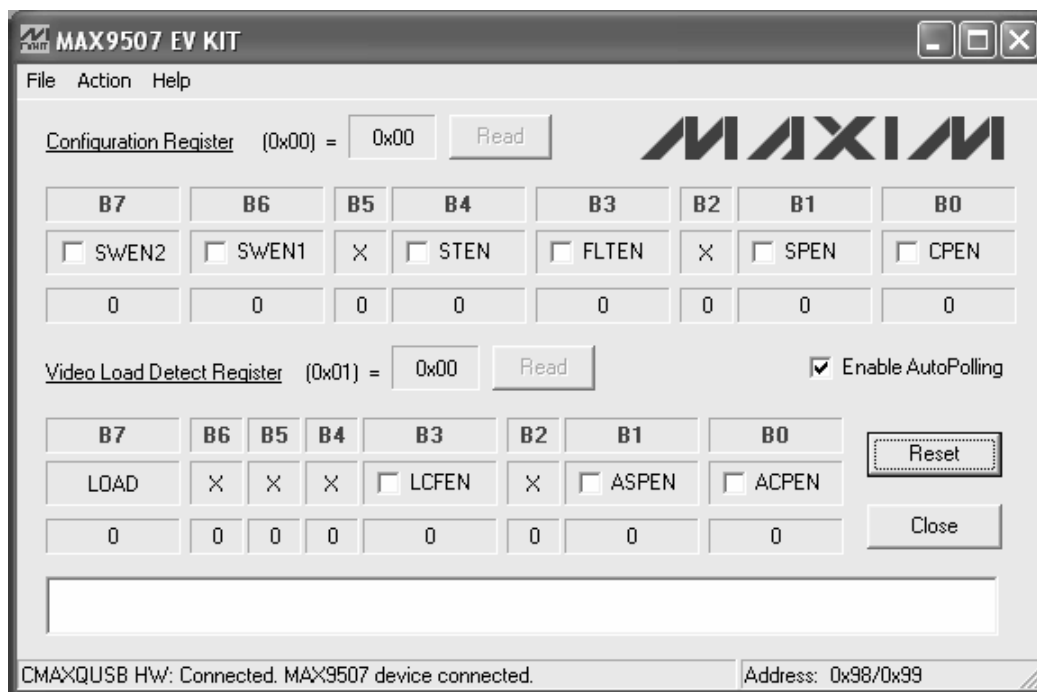

Figure 1. MAX9507 EV Kit Software Main Window
- 12) Normal device operation is verified when **CMAXQUSB HW: Connected. MAX9507 device connected** is displayed at the bottom-left side of the MAX9507 EV kit window, as shown in Figure 1.
In the program's main window (Figure 1), a mouse is used to toggle the checkboxes that control the various features of the MAX9507. The MAX9507 EV kit software permits the control of software-configurable features: switches, sync-tip clamp, filter, signal path, charge pump, load change flag enable, automatic signal path enable, and automatic charge pump enable. Changes to the controls result in write operations that update the configuration and video load detect registers of the MAX9507. All changes to the 8-bit command registers are reflected on screen under the **B7–B0** labels; the register contents are also read and displayed in hexadecimal format.
There are two methods for communicating with the MAX9507: through the normal user-interface panel (Figure 1) or through the SMBus commands available by selecting the **Interface Diagnostic Window** item from the **Action** pulldown menu. The **Maxim Command Module Interface** window pops up and includes a **2-wire interface** tab that allows for execution of the **SMBusSendByte()** and **SMBusQuick()** commands.